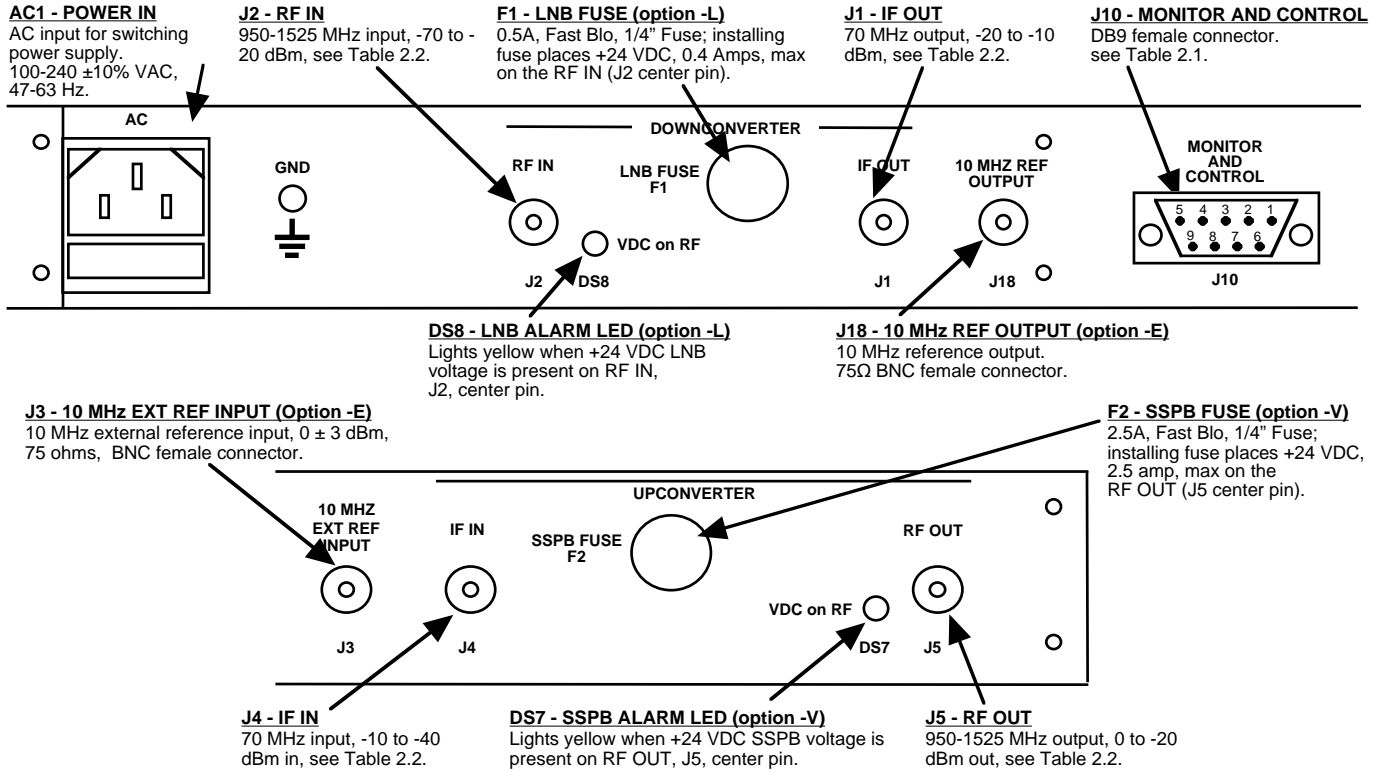

Figure 2.1 Model 2017-03 Rear Panel I/O's
2.2 Rear Panel Input/Output Signals and Control - Figure 2.1 shows the input and output connectors on the rear panel.
- 1.) Connect a -10 dBm to -40 dBm signal to IF In, J4 (Figure 2.1).
- 1.) Connect a -70 dBm to -20 dBm signal to RF In, J2 (Figure 2.1).